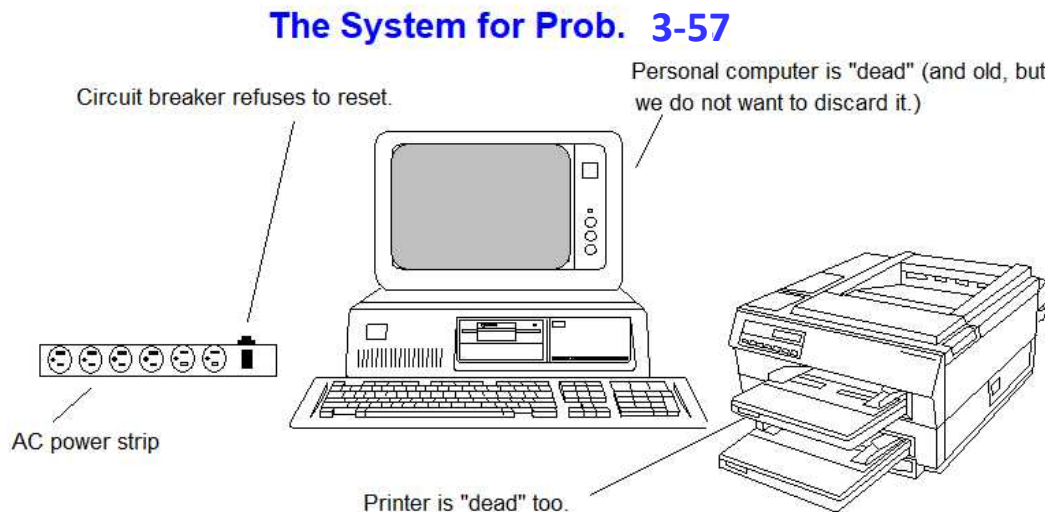

Figure 3-66.
- 3-57. A computer is being operated from a *surge-protected* AC power strip (refer to Fig. 3-66). After a thunderstorm, the circuit breaker keeps tripping. Both the computer and the printer are plugged into the power strip. Describe a troubleshooting procedure to isolate the faulty component. If the varistor is the problem, explain why it might have failed. The varistor is connected as depicted in Fig. 3-24 and is in the same position as the fuse.²⁹